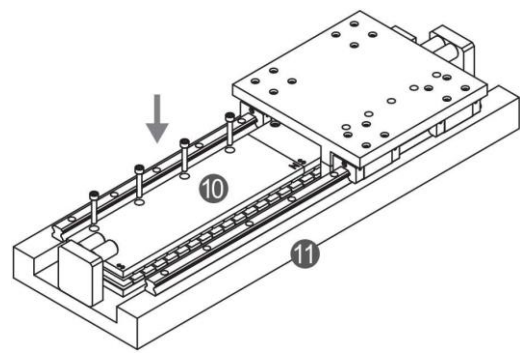

Figure 5.2-6 Stator installation
- ▶ Fasten the remaining stator assemblies ⑩ onto the baseplate ⑪. (refer to Figure5.2-6)